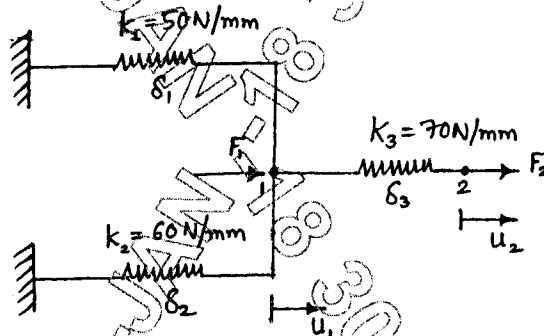

Fig. Q1(b)
- b. For the spring system shown in Fig. Q1(b). Using the principle of minimum potential energy, determine the nodal displacement. Take : $F_1 = 75\text{N}$ and $F_2 = 100\text{N}$. (10 Marks)